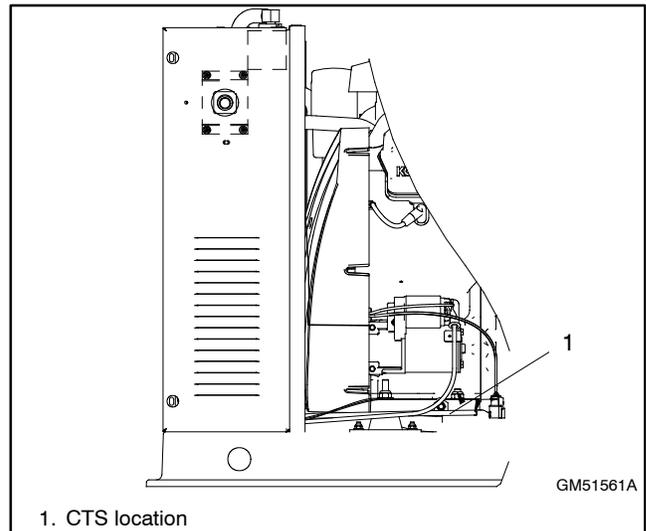

Figure 5-28 CTS Location
The coolant temperature sensor (CTS) is used to monitor engine temperature for the high engine temperature fault shutdown (HE). See Figure 5-28 for the coolant temperature sensor location. Set the generator set master switch to the OFF position and allow the generator set to cool. Disconnect the CTS and use an ohmmeter to measure the resistance across the sensor. The sensor resistance varies with temperature and should be within the values shown in Figure 5-29. If the resistance is very low (indicating a short circuit) or very high (indicating an open circuit) replace the CTS.